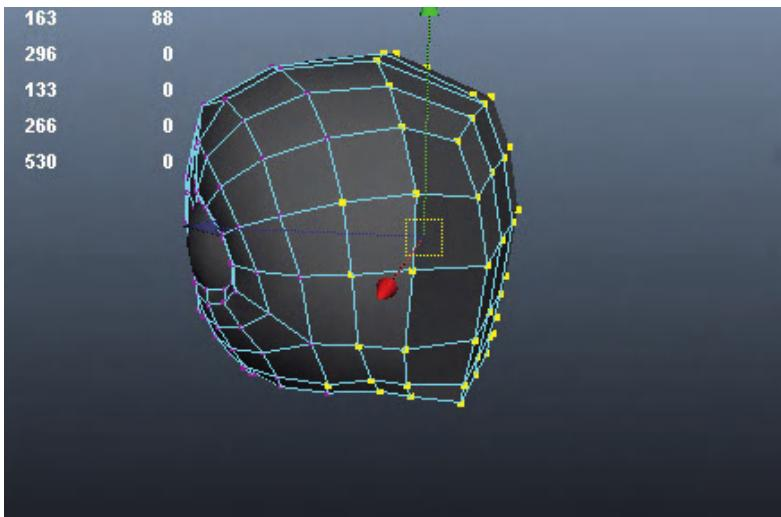

FIG 4.38 Making sure that recently snapped vertices are merged – note the broad selection that is taken care of in the Merge Tool.
Step 55: Merge the vertices. Marquee select a broad swath of vertices (Fig. 4.38) that includes all the vertices of the seam. Use Polygons>Edit Mesh > Merge.
Remember that the Merge Tool looks around each selected vertex to find if there are any other vertices within a certain distance of itself and only merges those. Because of this, a very broad selection of vertices can be selected as seen in Fig. 4.38, but if the model is big enough (and thus the vertices far enough apart), only the vertices that are right on top of each other will be merged.